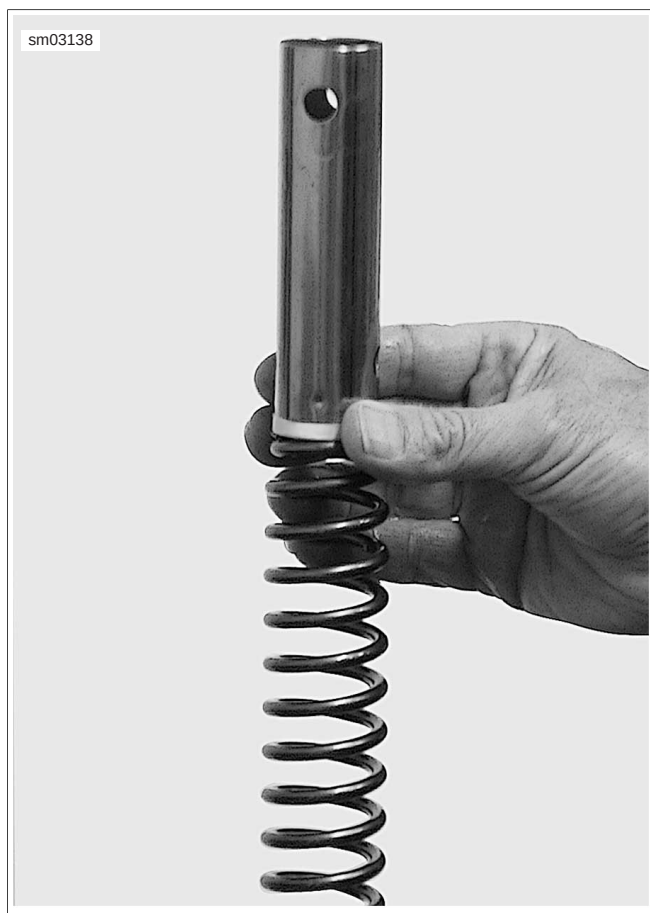

Figure 2-88. Remove Collar, and Spring Assembly
6. See Figure 2-88. Remove collar and spring from fork assembly.